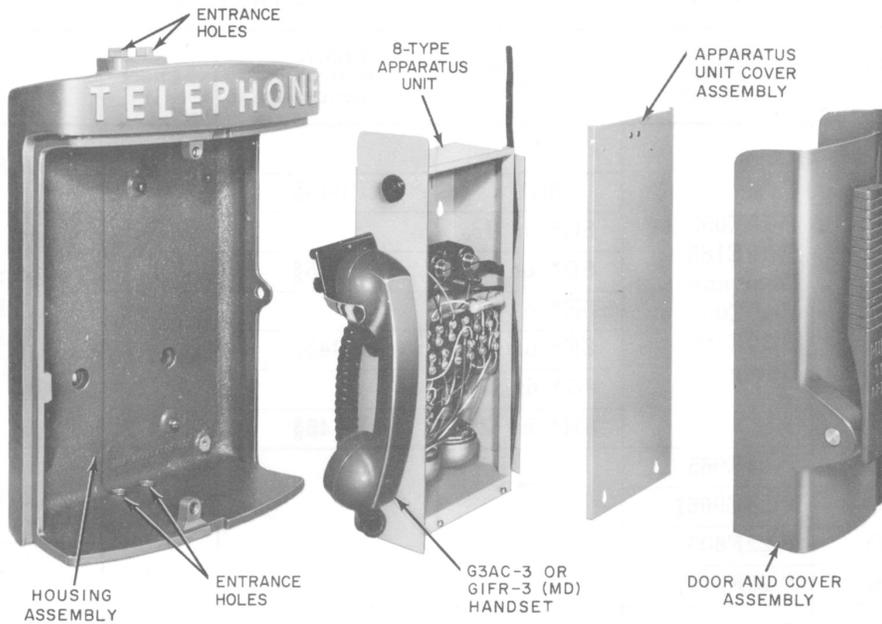

Fig. 3—570-Type Telephone Set, Components
2.03 *Replaceable Components:* See Table A and Fig. 3.